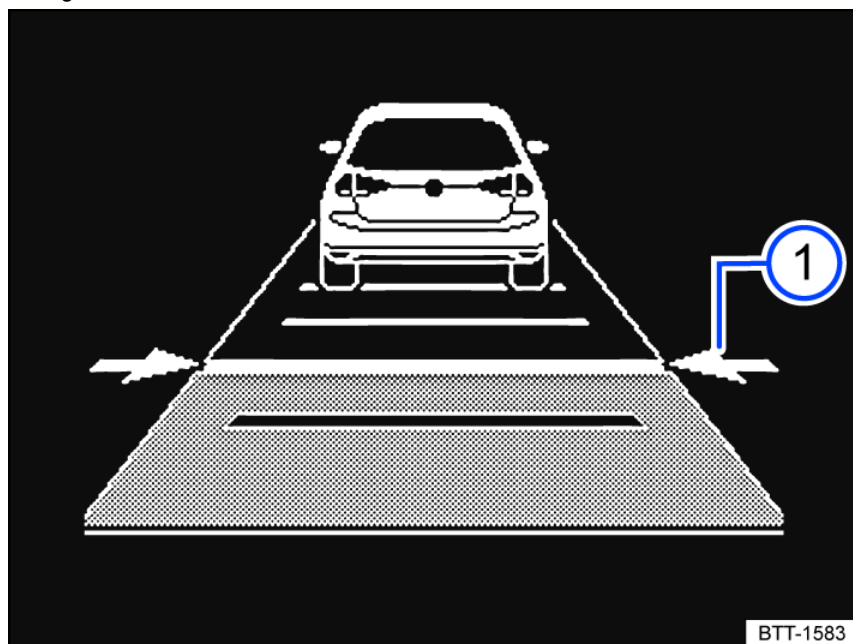

Fig. 108 In the instrument cluster display: set distance ① (general example, ACC is regulating).
The instrument cluster display shows the selected level fig. 108 ①. Heed the country-specific regulations for minimum distance.